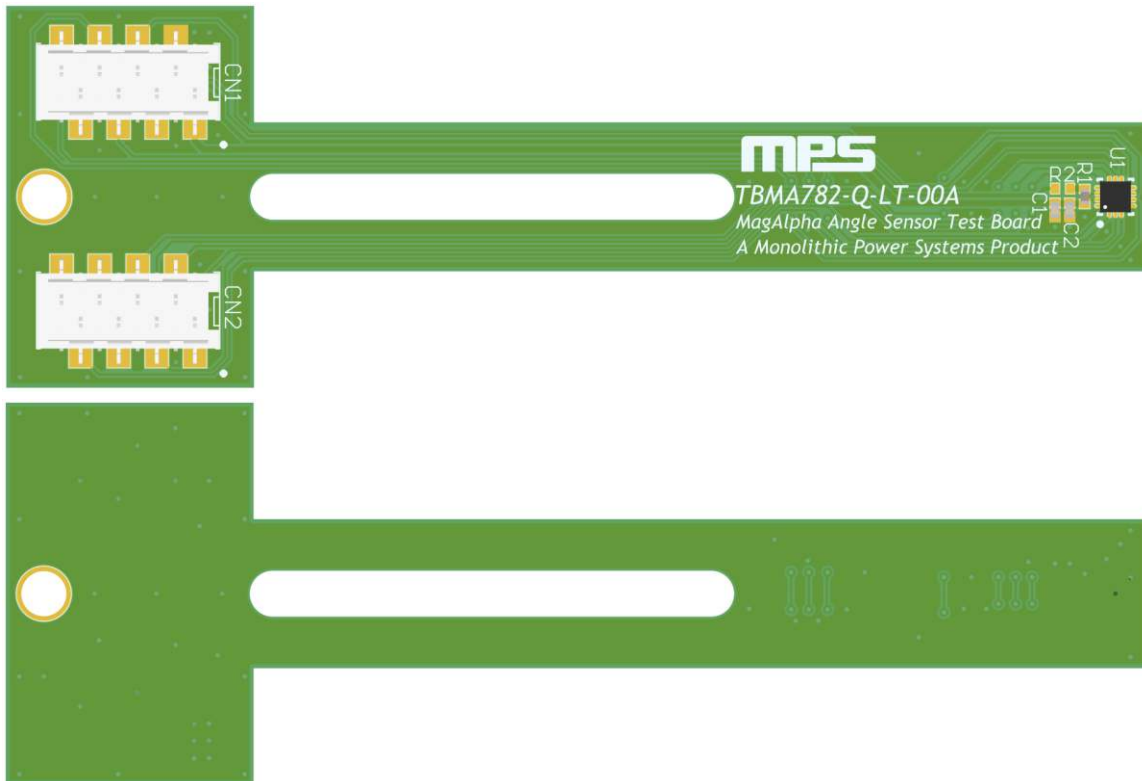

Figure 31: LT Type 4 Board Overview
Figure 31 shows an overview of the Type 4 long (LT) board.